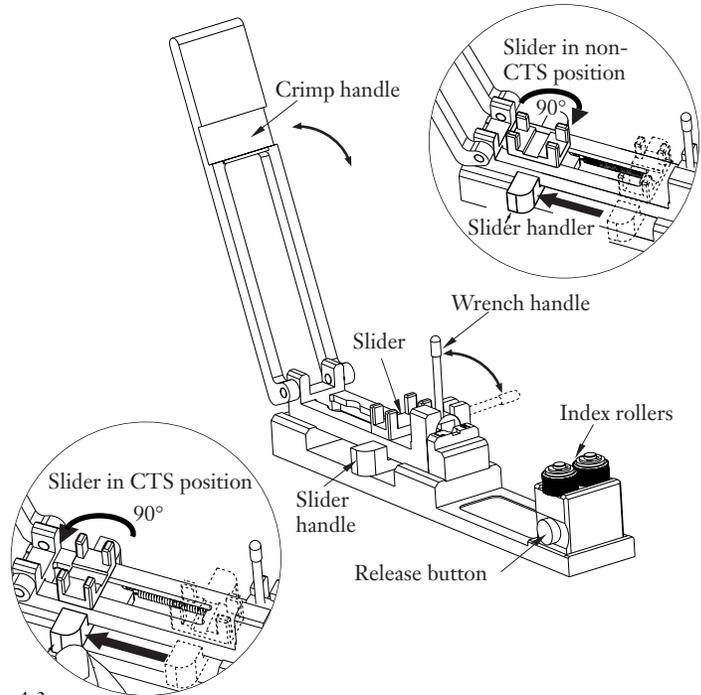

Figure 4-3
**4.3-2** Flip the crimp handle open and rotate the wrench so the handle is up (Figure 4-3).
For installations using the CTS system, rotate the slider to the CTS position by pulling the slider handler fully back, and while holding it, rotating the slider to the orientation shown in the lower inset of Figure 4-3.